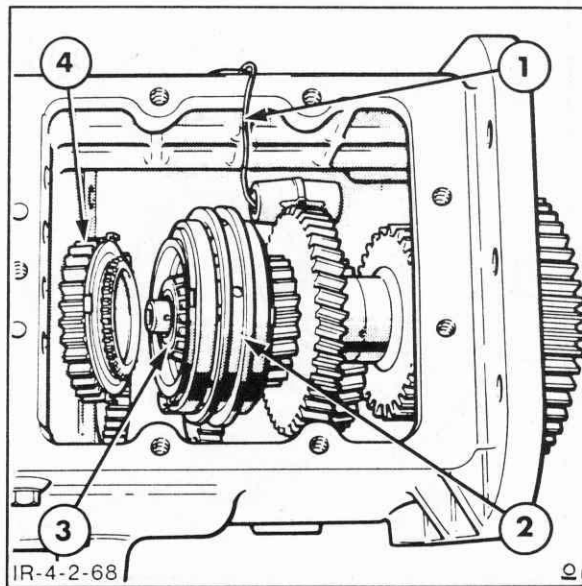

Figure 4-163
9. Install the output shaft and gear assembly into the transmission case from the rear end, while holding the front end of the synchronizer assembly to prevent the cones and pins dropping out, Figure 4-161, and position onto the countershaft and gear assembly just behind the rear input shaft, Figure 4-163.